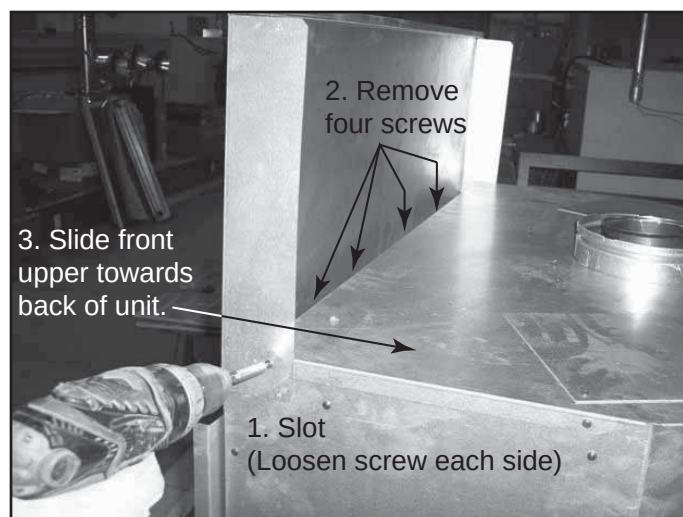

Figure 14.1 Covering Front Upper
- Locate the slots on each side of the metal front upper (see Figure 14.1, #1). Loosen the screws.
- Slide the front upper towards the back of the firebox 1/2 in. (13 mm) as shown in Figure 14.1, #3.
- Tighten the screws on each side of the front upper (Figure 14.1, #1).
- Replace the four screws to hold the upper to the firebox (Figure 14.1, #2).